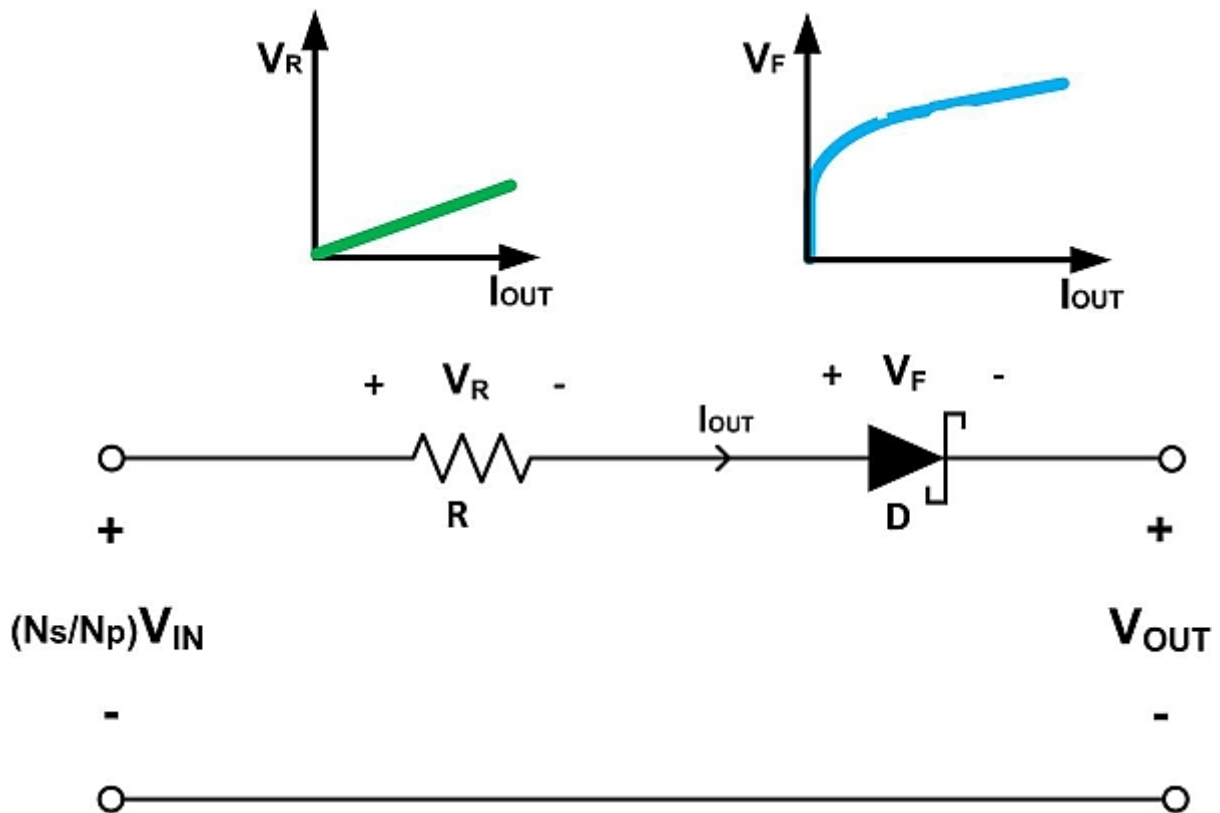

Figure 4. The equivalent circuit of unregulated push-pull converter
A push-pull converter is essentially a forward-derived topology. When it operates with a fixed 50% duty cycle, the output voltage regulation can be elaborated using the equivalent circuit in **Figure 4**. R is the equivalent resistance of secondary transformer winding and trace. The output voltage can be expressed by (1):
Like the unregulated push-pull converter described by equation 1 and **Figure 4**, the isolated output of the Fly-Buck is a function of V_R and V_F , which are both load-current and temperature-dependent. However, V_p is a constant voltage regulated by a feedback circuit, which makes V_p and, thus, V_{OUT} independent of V_{IN} . To the isolated output of a Fly-Buck converter, the effect of V_{IN} is compensated, but the effects of load current and temperature are not compensated. So the Fly-Buck™ converter falls into the semi-regulated isolated DC/DC converter category.